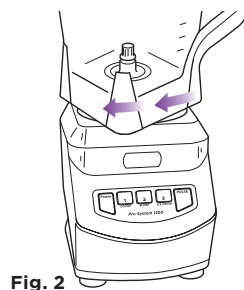

Fig. 2
- 3 Rotate the container to the left as far as it will go. As the container rotates, it will lower and the safety tabs on the bottom of the container will slide under the safety tabs on the top of the motor base. (Fig. 2)